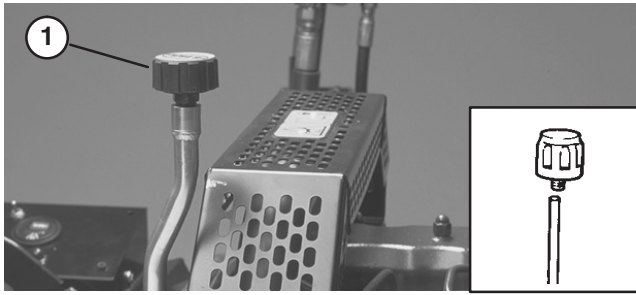

Figure 42
2. Clean around the breather and unscrew it with a wrench (Fig. 42). Install new breather.